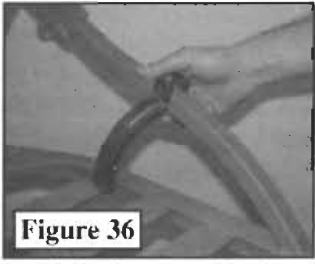

Figure 36
RapidClimb Stirrups. The two (2) RapidClimb stirrups fit on the curved upright arms of the platform. Simply slide one stirrup on each side of the platform such that they are on the inside of the platform and facing down as shown in **Figure 36**. Once positioned, secure with the bolt and wing nut provided as shown in **Figure 37**. Occasional readjustment may be required as your footwear needs change. Wrap the supplied bungee cord around one side of the curved platform upright bars and push the s-hook through the loop as shown in **Figure 38**. Hook the s-hook around the opposite curved platform upright bar and back onto itself as shown in **Figure 39**.